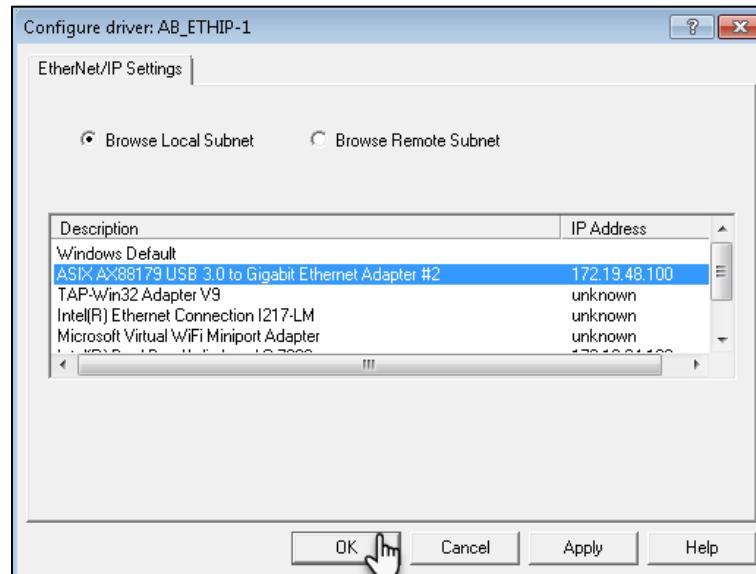

Figure 19: Network Card Selection
- Select your computer network card as per **Figure 19**.